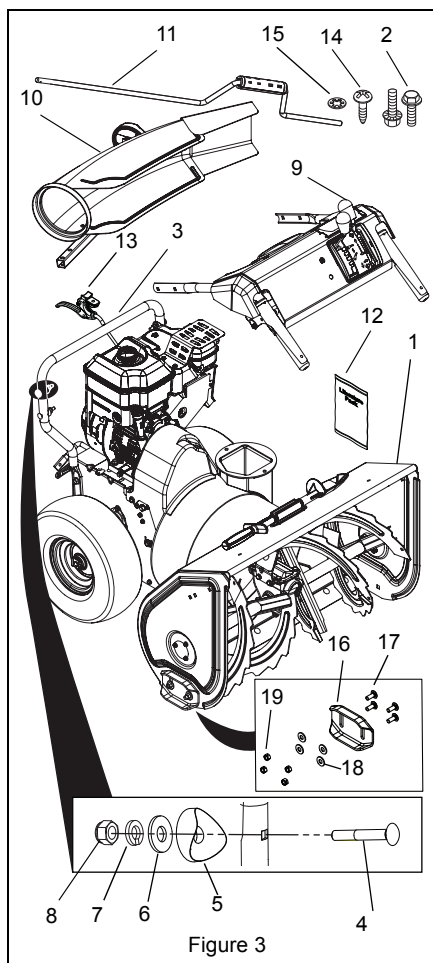

Figure 3
Check the contents of your package for the parts listed below (Figure 3):
2. Secure lower handlebar to unit using two 3/8" x 3/4" hex head serrated flange grade 5 bolts (Figure 3, Item 2).